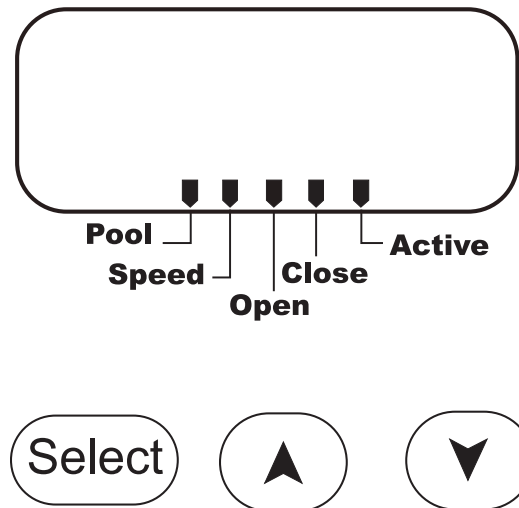

Figure 46 – Temperature Control Display and Programming Keys
An LCD is provided to display various readings and operating parameters. Three (3) pushbuttons are available to change the display and to program parameters (Figure 46).